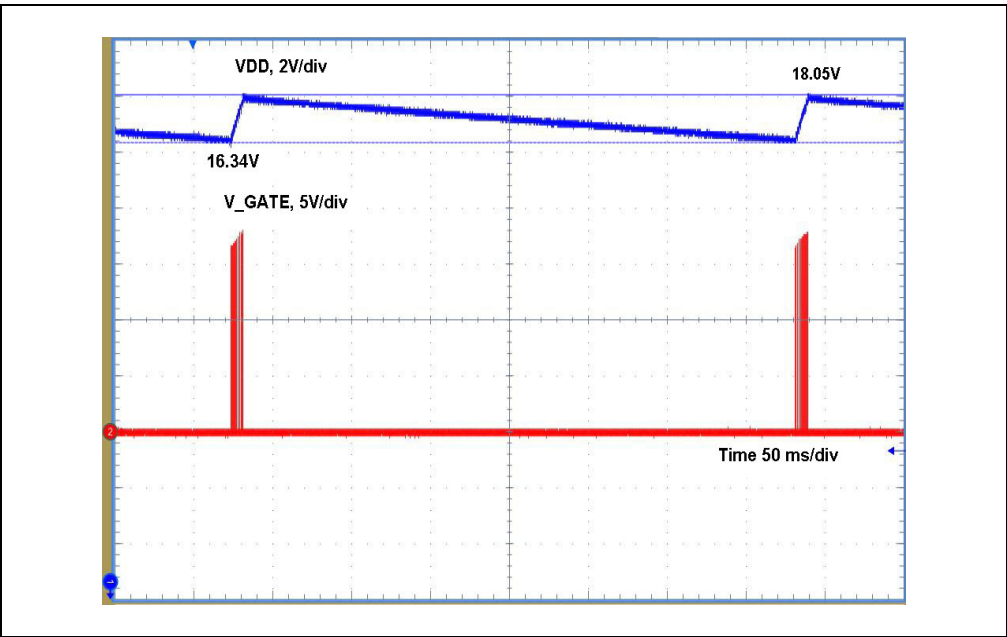

FIGURE 3-1: MCP1012 V_{GATE} and V_{DD} Hysteretic Voltage Supply at No Load.
6. Check on the oscilloscope screen the V_{DD} voltage and the GATE signal as they are presented in Figure 3-1.